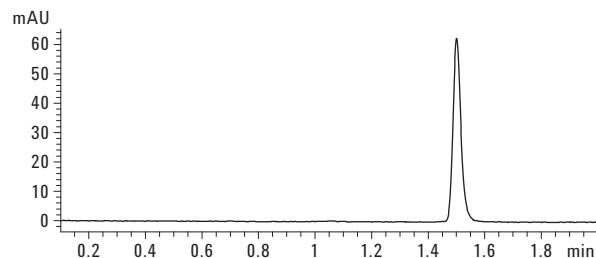

Figure 1. ZORBAX HILIC Plus QC chromatogram.
A typical quality control (QC) chromatogram for a 4.6 mm × 100 mm, 3.5 µm ZORBAX HILIC Plus column is shown in Figure 1. The QC test with the performance of your column is shown on the Column Performance Report enclosed with your column.